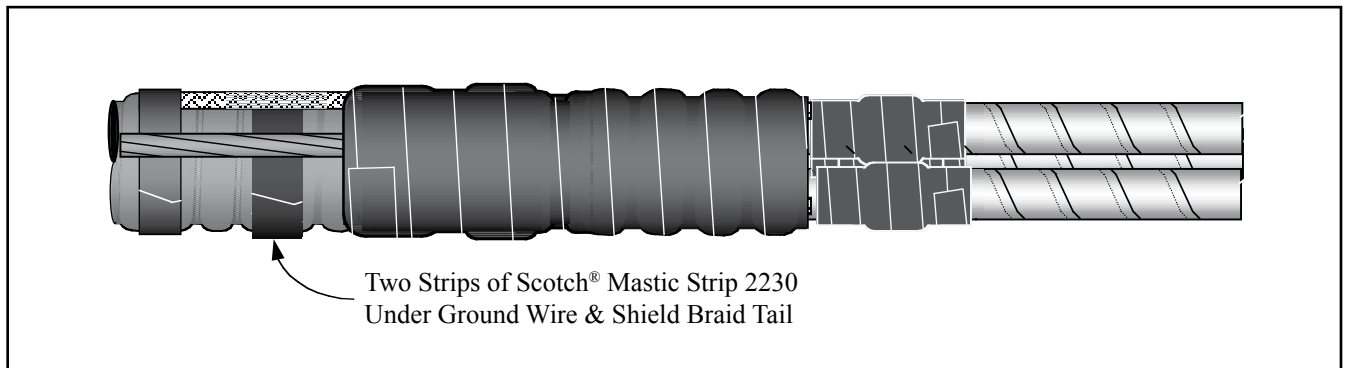

Figure 8
2.11 Wrap two strips of Scotch® Mastic Strip 2230 (one on top of the other) over cable jacket. Locate the mastic strip directly under the shield braid solder block and ground wire (*Figure 8*).